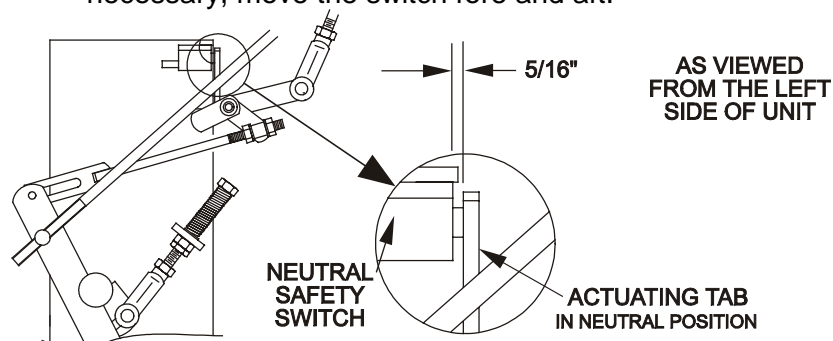

FIGURE 13
3. Pull the speed control lever back to neutral. Check that the neutral safety switch actuating tab has depressed the plunger of the switch so that there is about $5/16$ " between the tab and the switch (See Figure 13). If necessary, move the switch fore and aft.